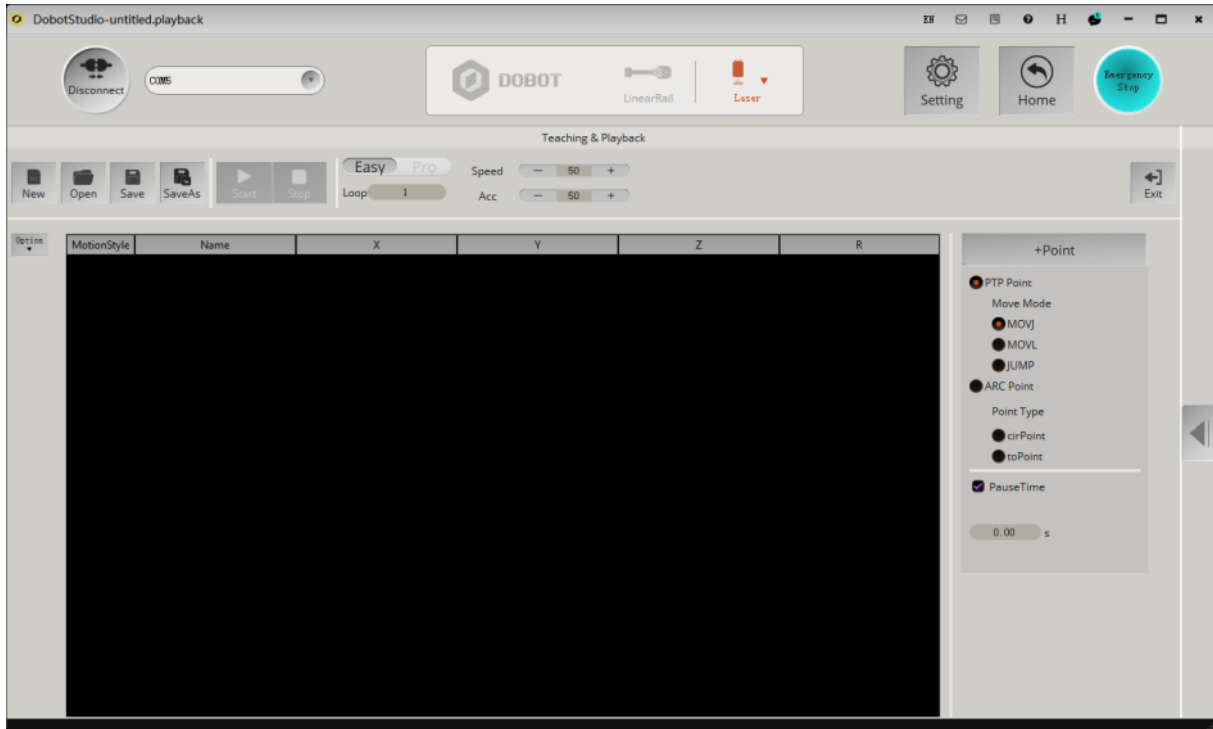

Figure 16: Teaching & Playback page.
- The command lines are programmed in the development window (see Figure 16):